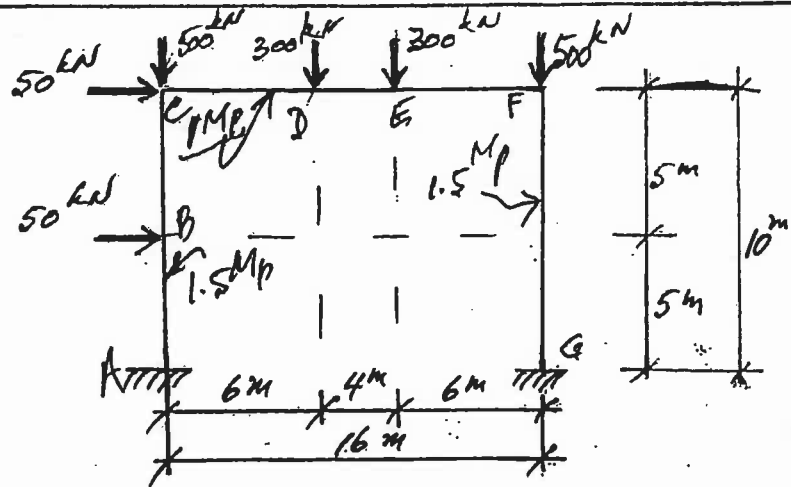

FIGURE 1
1. Use the plastic method of design to choose adequate steel sections for the rigid frame in Figure 1, which shows the members' plastic moment capabilities. Also estimate the size and reinforcement required to accommodate the concrete footing at support A. Assume a value for the soil-bearing capacity of 400 kPa.
2. (a) Design a welded corner connection at joint C for the rigid steel frame in Figure 1.
7. Assuming that the rigid frame in Figure 1 is to be constructed in reinforced concrete, design a rectangular cross-section for beam-column ABC. Also, estimate the long-term deflection at mid-span of member ABC.